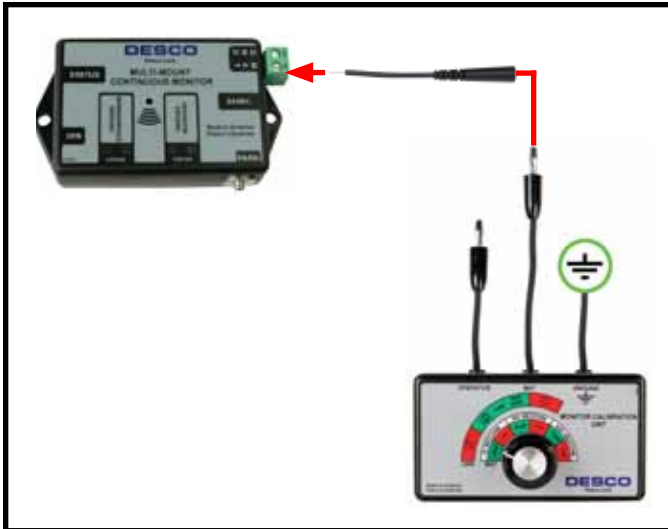

Figure 9. Connecting the MAT test lead from the Monitor Calibration Unit to the Multi-Mount Continuous Monitor
Step 2: Connect the included banana jack to wire adapter to the Calibration Unit’s banana plug labeled “MAT.” Insert the other end of the wire to the monitor’s green terminal block labeled “MAT” (see Figure 9).